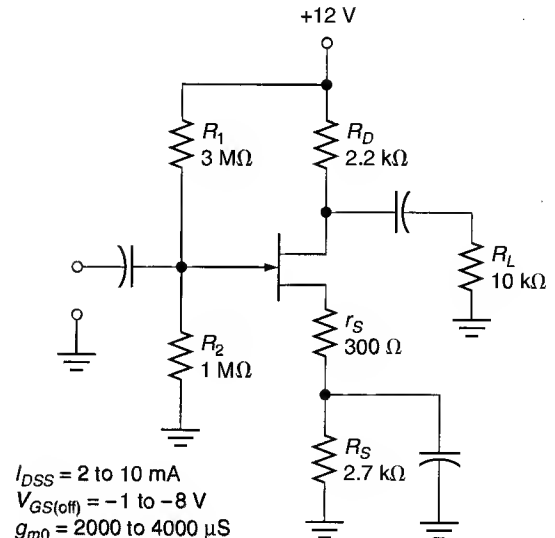

FIGURE 12.65
36. Determine the range of A_v values for the swamped amplifier shown in Figure 12.65.